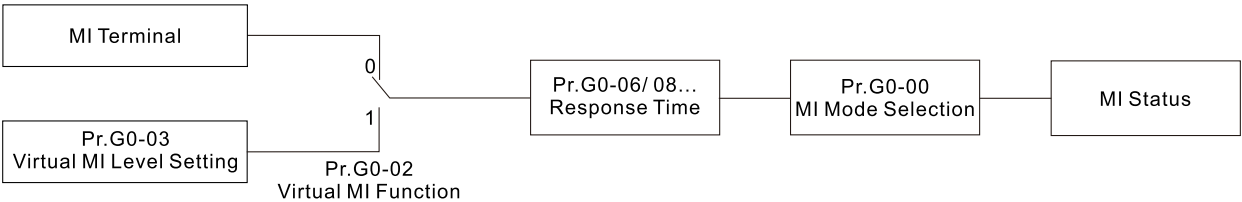

Figure 1 - MI signal processing diagram
- The entity and virtual MI signals determine the MI enable status through the response time and mode selection (level setting). Refer to Figure 1 - MI signal processing diagram for the MI action logic.